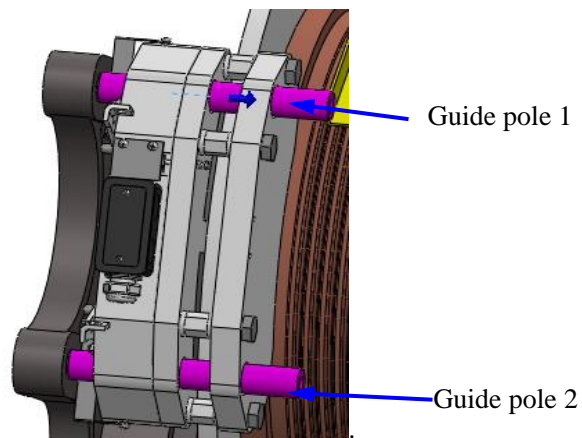

Figure 26: Guide pole removal
3. Remove the guide pole 1 and guide pole 2. See Figure 26.